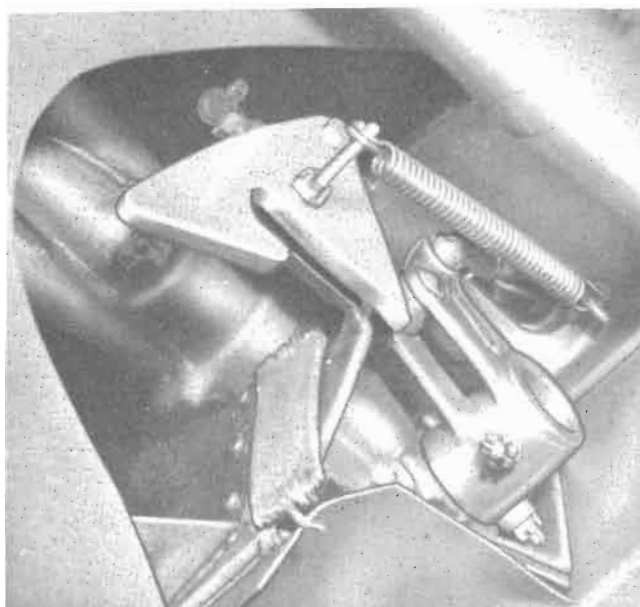

Figure 111 — Retracted Position Latch
1. RETRACTED POSITION LATCHES.—(See figure 111.)—The landing gear is held in the